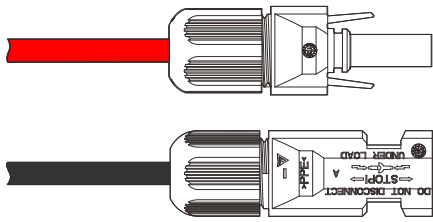

Figure3-19 Tighten the lock nut
- Step 4 Tighten the locking nuts of the positive and negative connectors to corresponding insulating shells, as shown in Figure3-19.